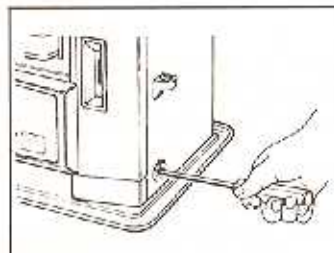

Fig. 13
- (4) Remove 3 set screws from sides and rear of the body (Fig.13).